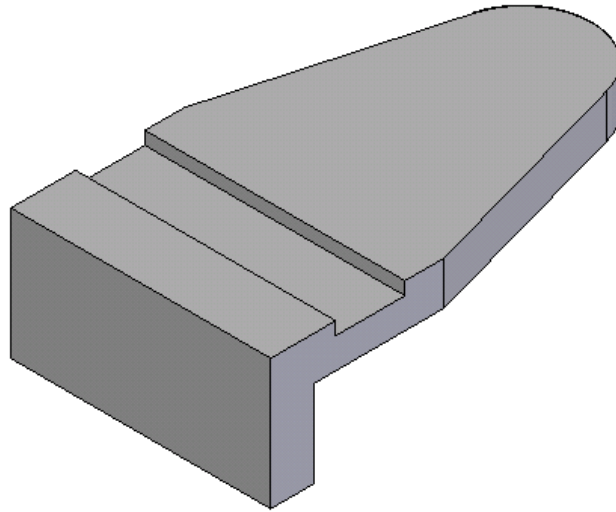

Figure 5-53 Model after creating the second feature
- Select the top planar face of the base feature as the sketching plane and then create the second feature, refer to Figure 5-53.
8. Choose **Finish** from the ribbon bar to complete the feature. The model, after creating the second feature, is shown in Figure 5-53.